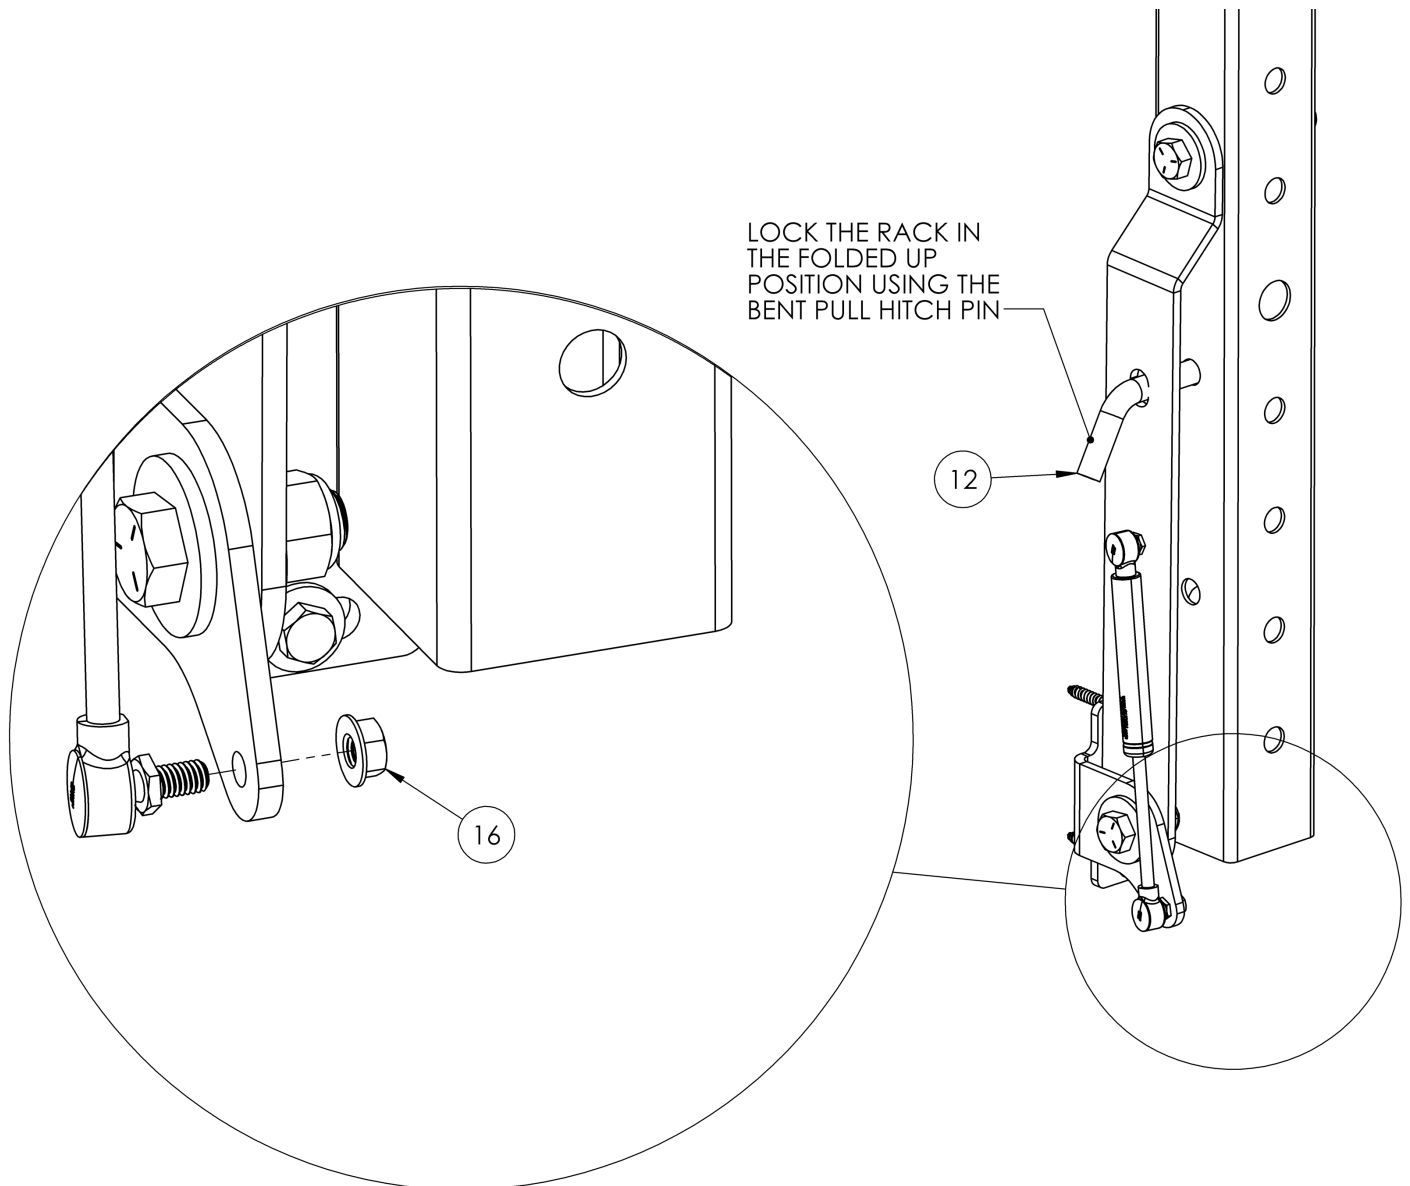

Figure 10: Attaching the Gas Shocks
2. Use the included bent pins to lock the rack in the stored position (**Figure 10**).
4. Using a 1/2" open-ended wrench to keep the stud from spinning, use the 1/2" wrench to install the flange nut (16) and tighten (**Figure 10**).